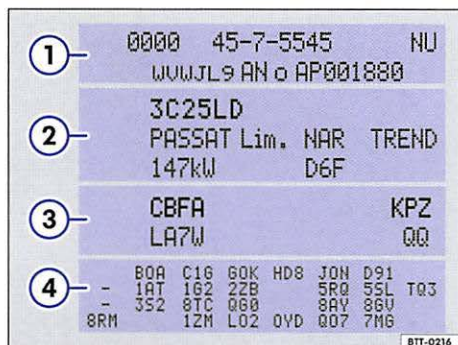

Fig. 14 Vehicle identification label: shown in the example with engine identification code CBFA ③.
The vehicle identification label ⇒ fig. 14 is affixed to the area of the spare wheel well in the luggage compartment and contains the following information:
- ① Vehicle identification number (VIN)
- ② Vehicle type, engine output, transmission
- ③ Engine and transmission code letters, paint number, interior. In the example, the engine classification code is "CBFA" ⇒ fig. 14.
- ④ Optional equipment, part numbers